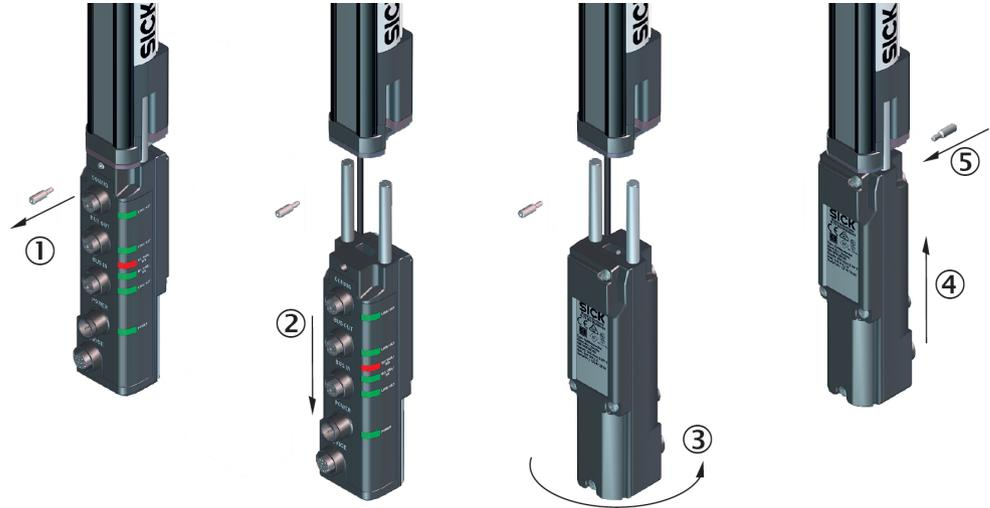

Figure 40: Turn the fieldbus module by 180°
- ▶ Remove the fieldbus module as described (see figure 40, page 46).